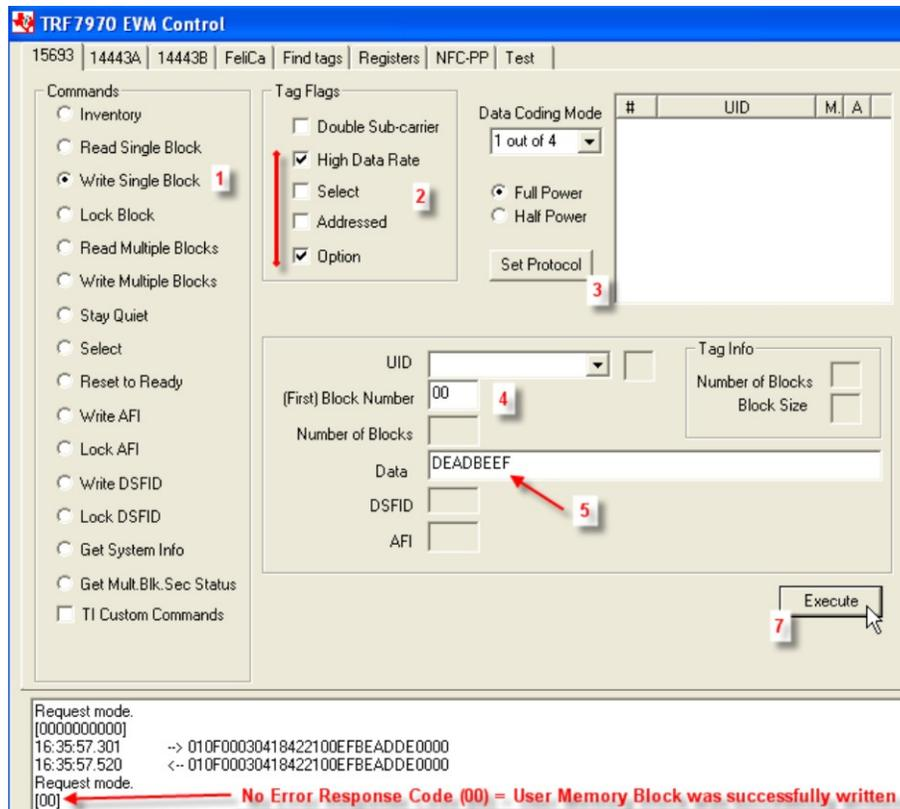

Figure 8. Write Single Block Command Example
2. Select Tag Flags accordingly (see Figure 8 for one example, and note use of option flag).